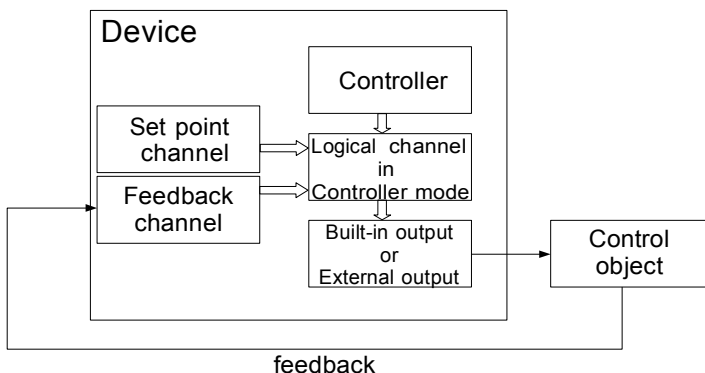
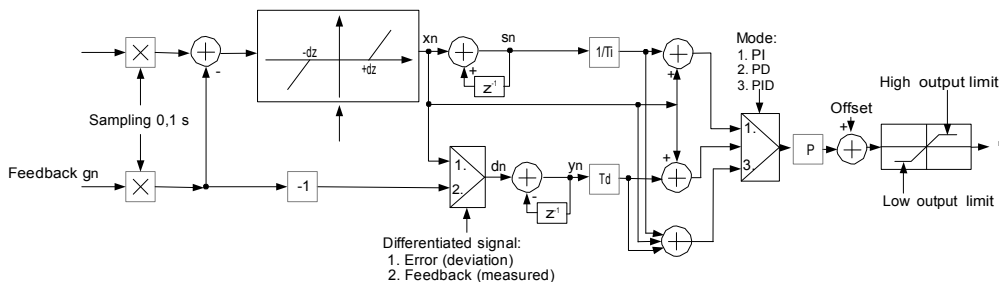

Fig. 7.109. Block diagram of the control loop of the object by Multi-Channel
Fig. 7.110. Block diagram of the Controller implemented in the device
- Differentiated signal - this parameter is available for PD and PID mode and allows the selection of the option (see Fig. 7.109 and Fig. 7.110):
Note! After offset the output signal, the output value is limited to the range set in Low output limit and High output limit parameters (see Fig. 7.110),
Fig. 7.109 shows the block diagram of a control process of an object with the Controller implemented in the device. Set the setting of the selected Controller to be connected to the Logical channel operating in the Controller mode. In this Logical channel, select a Set point channel and the Feedback channel, which store the data required to control the object. Respectively, Set point channel contains a destination value of the process, while the Feedback channel includes the value of feedback coming from the object controlled. Multi-Channel uses data collected from these channels and the corresponding Controller controls the object.